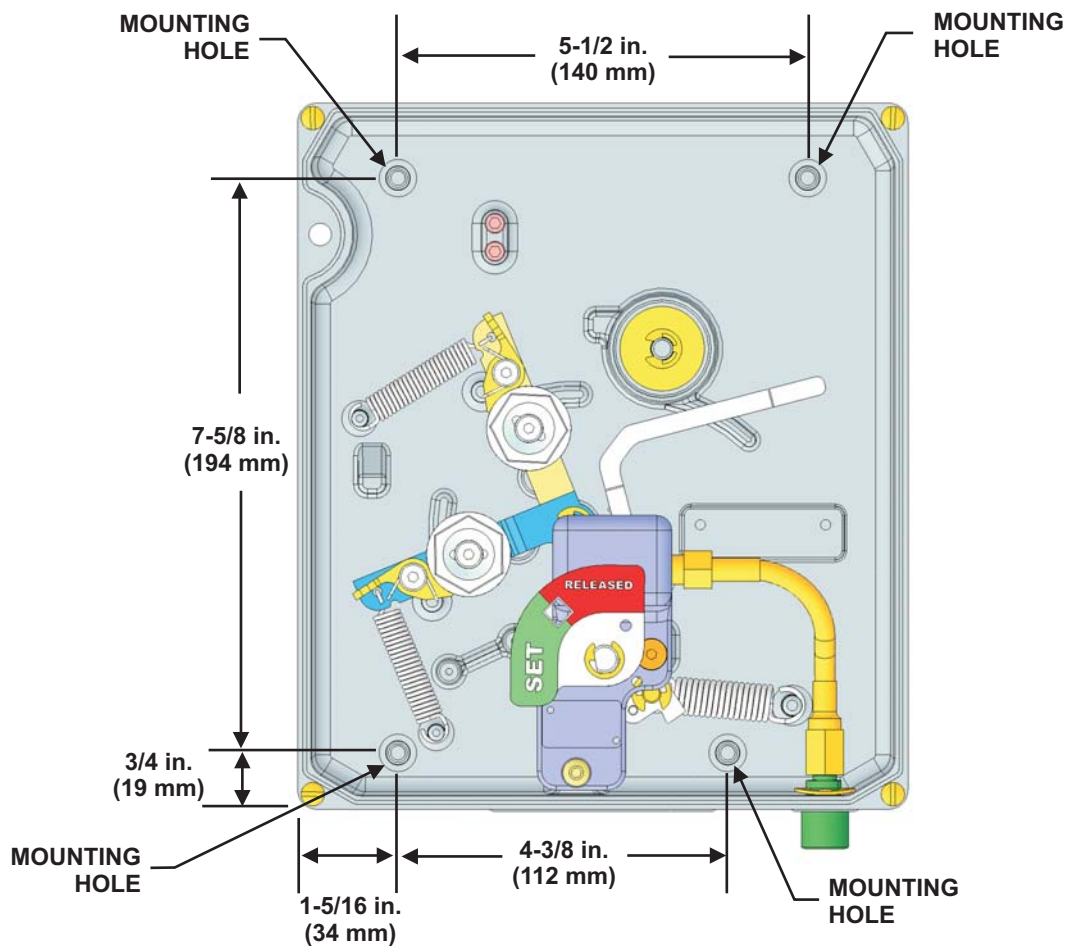

Figure 4-7. Location of Mounting Holes (Housing)
1. With the XV Control System cover removed, lay the box on its back. Locate the four mounting holes in the housing. Position the box so that the mounting holes are not flat on the work surface and break out the knockouts. See Figure 4-7 for location of mounting holes.